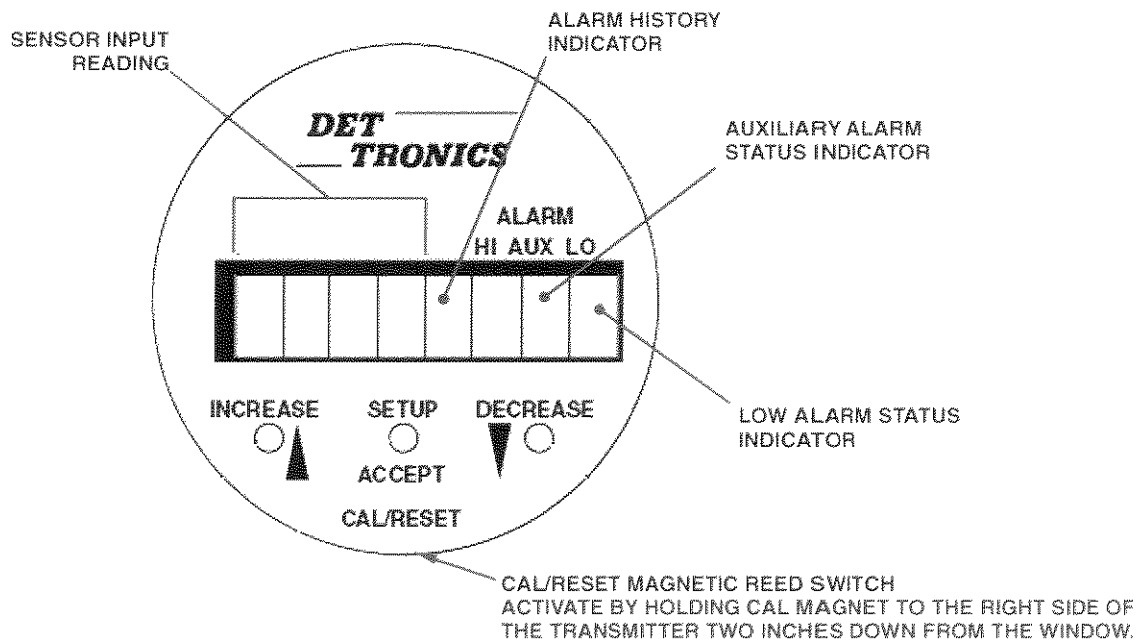

Figure 4-7. Gas Sensor Transmitter
3. Initiate calibration by holding the Cal magnet under the correct transmitter for 7 seconds (See figure 4-7). The display will sequence through the Setup settings. When the transmitter enters the Calibration mode, the display will show the detected gas concentration and an alternating message "ZERO" "CAL".